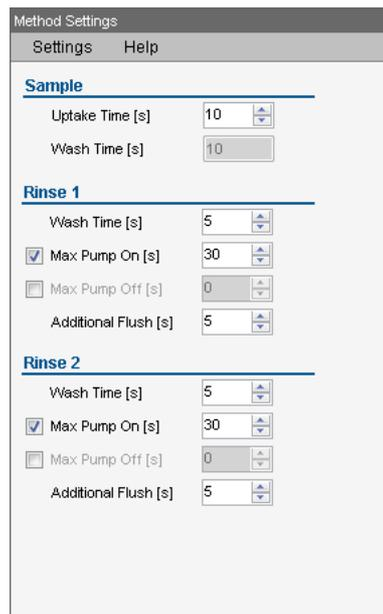

Figure 14-13. ESI autosampler Analysis Settings
5. Select **Settings > Analysis**, see Figure 14-13.
- a. With **Continue Washing**, set the **Rinse 1** and **Rinse 2** parameters as shown in Figure 14-13. When selected, after analysis completed the probe moves to the rinse vial and cleans for the defined time.